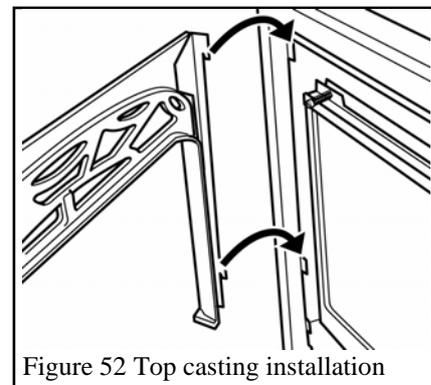

Figure 52 Top casting installation
- Attach the top casting unit by hooking over the four tabs at the firebox sides as shown in figure 52.